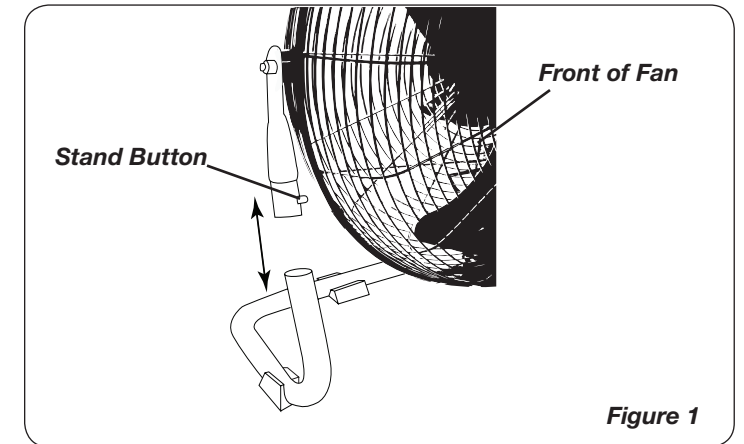

Figure 1
STAND AND CONTROL BOX ASSEMBLY (Figures 1 and 2)
2. Align the two sides of the fan to the stand (Figure 1). By pressing in the stand buttons - push down until they lock in place.